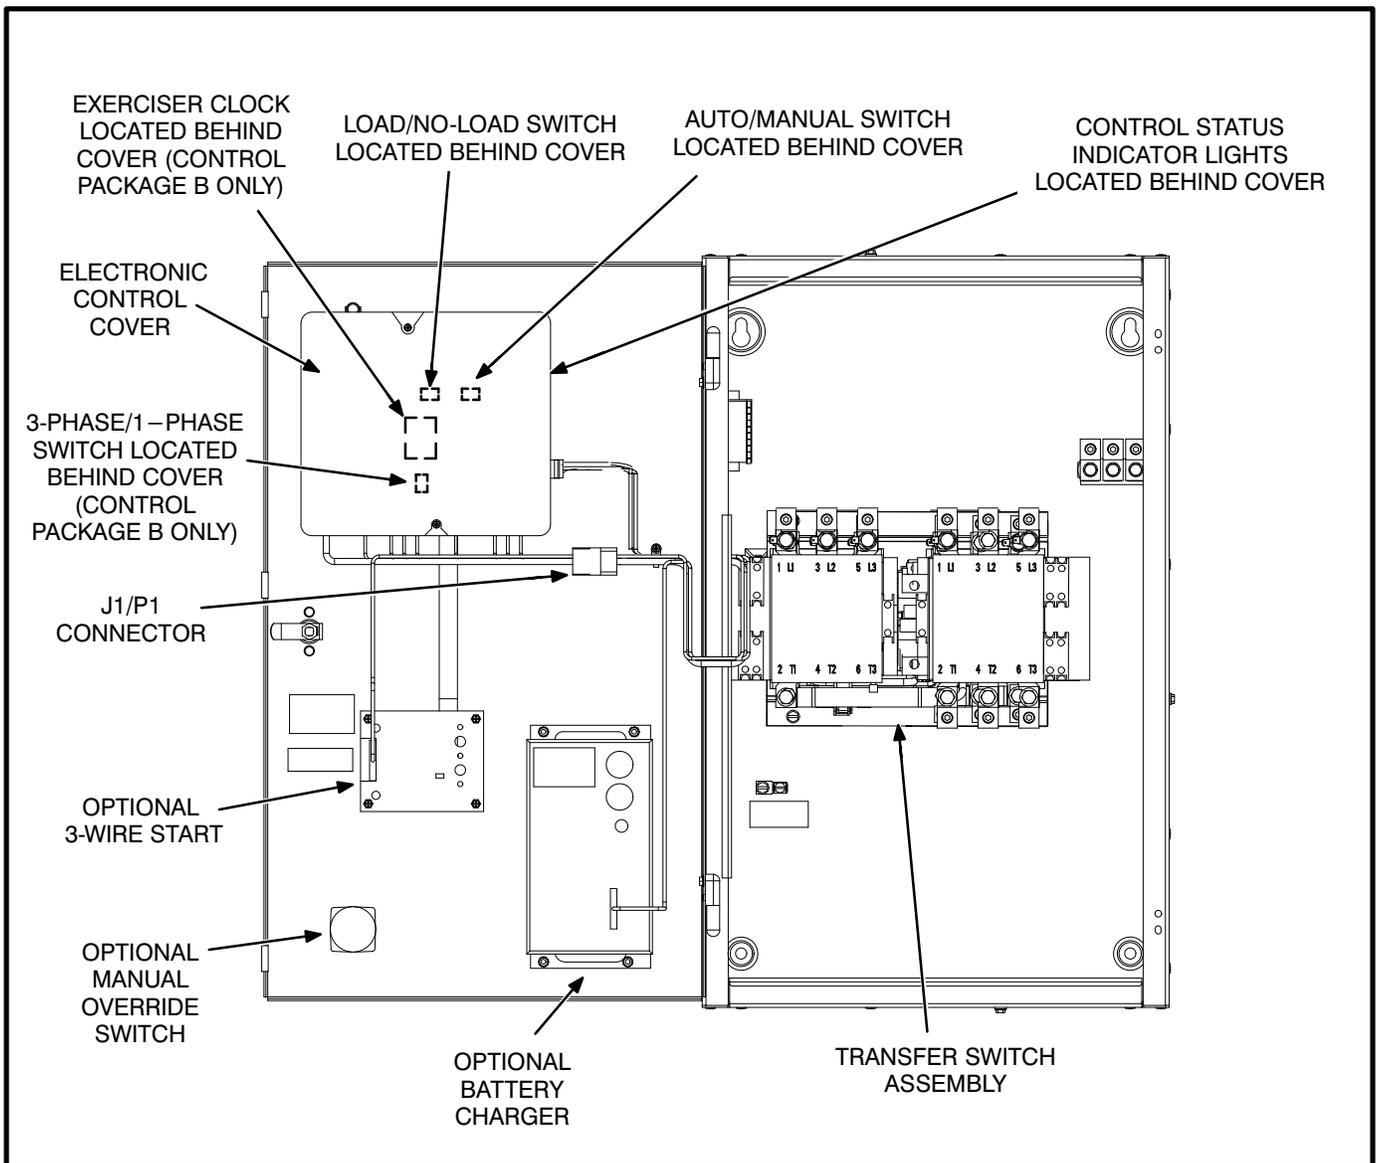

FIGURE 2-2. TRANSFER SWITCH INTERIOR COMPONENTS
Control package B has a Test and an Instant Retransfer switch. The momentary Test switch sends a start signal to the generator set. After the transfer time delay, the generator set will assume the load—provided that the Load/No-Load switch (Figure 2-2) is in the Load position.
The transfer switch (Figure 2-2) opens and closes the contacts that transfer the load between Normal and Emergency power. The transfer switch is mechanically interlocked to prevent simultaneous closing to both power sources. The main parts of the transfer switch discussed here are the contact assemblies and auxiliary contacts.
The Auto/Manual switch, located on the control circuit board (Figure 2-2), is used to enable or disable the automatic retransfer function. This switch has two positions. In the Auto position, normal automatic retransfer is enabled. In the Manual position, automatic retransfer (from a functioning generator set back to utility power) is disabled; only manual retransfer is possible. To manually retransfer, turn the
Figure 2-2 shows the interior of a typical LT III transfer switch. Due to differences in cabinet sizes, the location of some of the optional modules in the transfer switch may not be the same as shown here. Refer to Section 3 for adjustments and settings for these modules.
If the Load/No-Load switch on the control circuit board is in the Load position (Figure 2-2), a simulated utility power failure occurs. The load is transferred to the generator set when generator set power becomes available.
1. Place the Load/No-Load selector switch, on the control (Figure 2-2), in the No-Load position.
4. In anticipation of scheduled or automatic generator set exercise, check that the Load/No-Load selector switch is in the desired position (Figure 2-2). Refer to *Generator Set Exercise*. Close and lock the cabinet door.